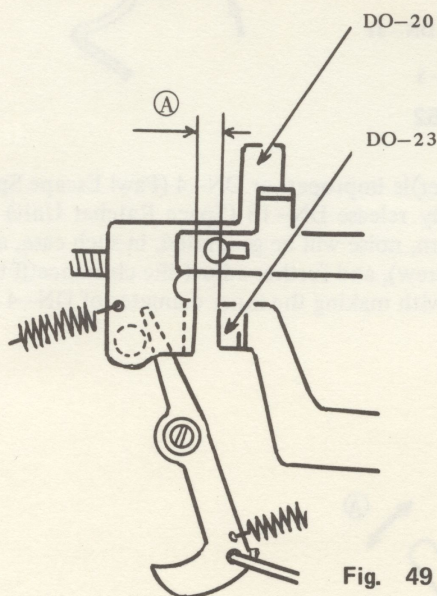

Fig. 49
- (5) Adjust the clearance ① between DO-20 (Carriage Stopper) and DO-23 (Stopper: A for DD-20) to 2.0 to 2.5 mm for Pica type and 1.5 to 2.0 mm for Elite type for disengaging DH-37 and DH-35 with DH-53 when the Carriage is moved to right direction by hand under engaging condition between DH-37 and DH-35. In this adjustment, make sure no excessively short DH-53 and no distortion of DH-53 at the portion of DH-37, because engaging condition may not be satisfied. (Fig. 49, 50)